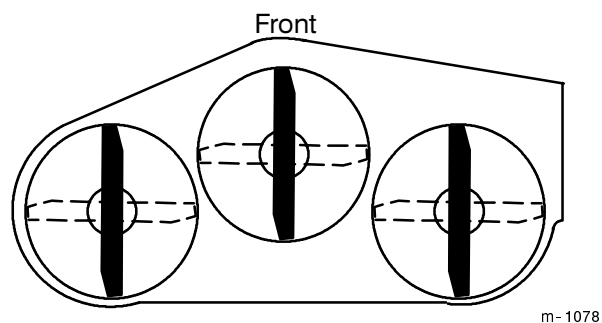
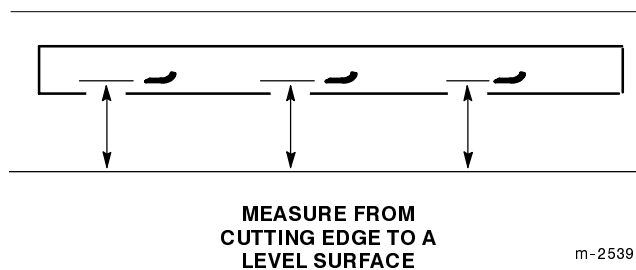

Figure 29
Figure 30
1. Rotate the blades until the ends face forward and backward (Fig. 29). Measure from a level surface to the cutting edge of the blades (Fig. 30). Note this dimension.